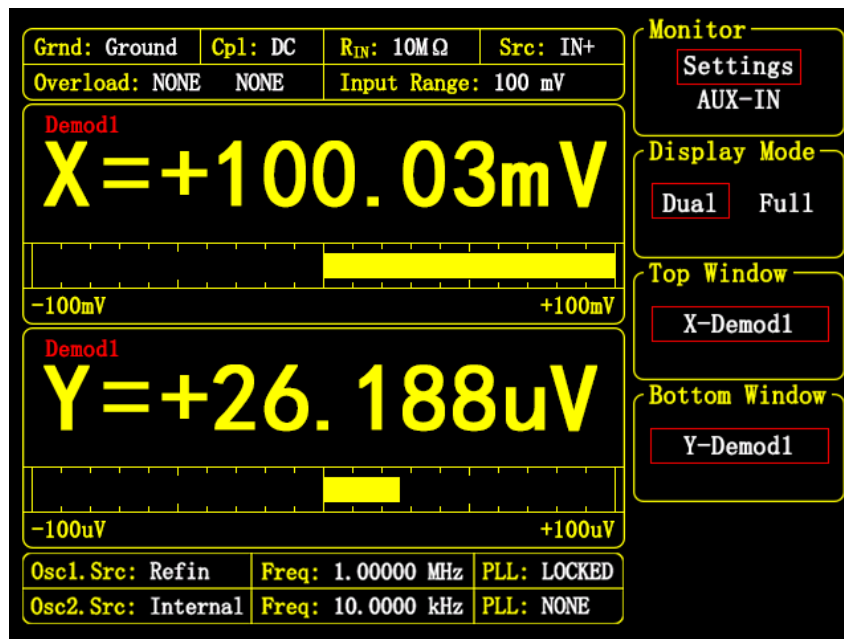

Figure 93. Modified X\Y Display
In the default system settings, the upper and lower data fields display the $\langle R \rangle$ and $\langle \theta \rangle$ values, respectively. The displayed values can be changed using the method described below. In the [Display] submenu, press "Soft key 3" to select the <Top Window> menu, and use the knob to change the displayed value to "X-Demod1". Then press "Soft key 4" to select the <Bottom Window> menu, and use the knob to change the displayed value to "Y-Demod1". After the modification, the result is shown in Figure 93. This method can be used to view the desired measurement result.